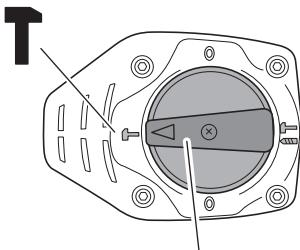

Fig. 8
(1) Switching to "hammering"
- Align ▲ of the selector lever and T of the crank cover as illustrated in Fig. 8.